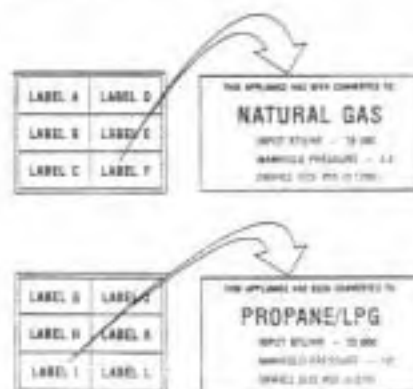

Figure 55
Step 9. Attach conversion kit label to the rating plate on the appliance. Label F for units converted to natural gas or Label I for units converted to propane (Figure 55).